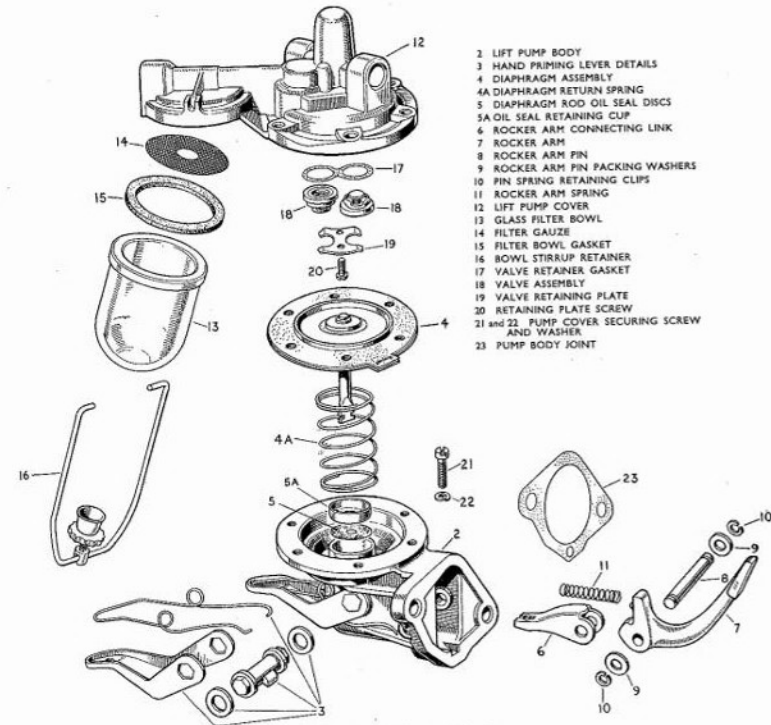

Fig. C.5. Fuel lift pump details
3. From the foregoing description of the operation of the lift pump it will be appreciated that the pressure of fuel at the carburettor is determined by the spring (4A, see Fig. C.5), and the further this spring is compressed the greater will be the pressure. All parts of the lift pump and the cylinder block are machined to definite limits. It will, however, be appreciated that circumstances might arise in which all the lower limits exist on one particular engine, with the result that the spring will be compressed on the downward stroke to a greater extent than is normal, resulting in an excess pressure at the carburettor.